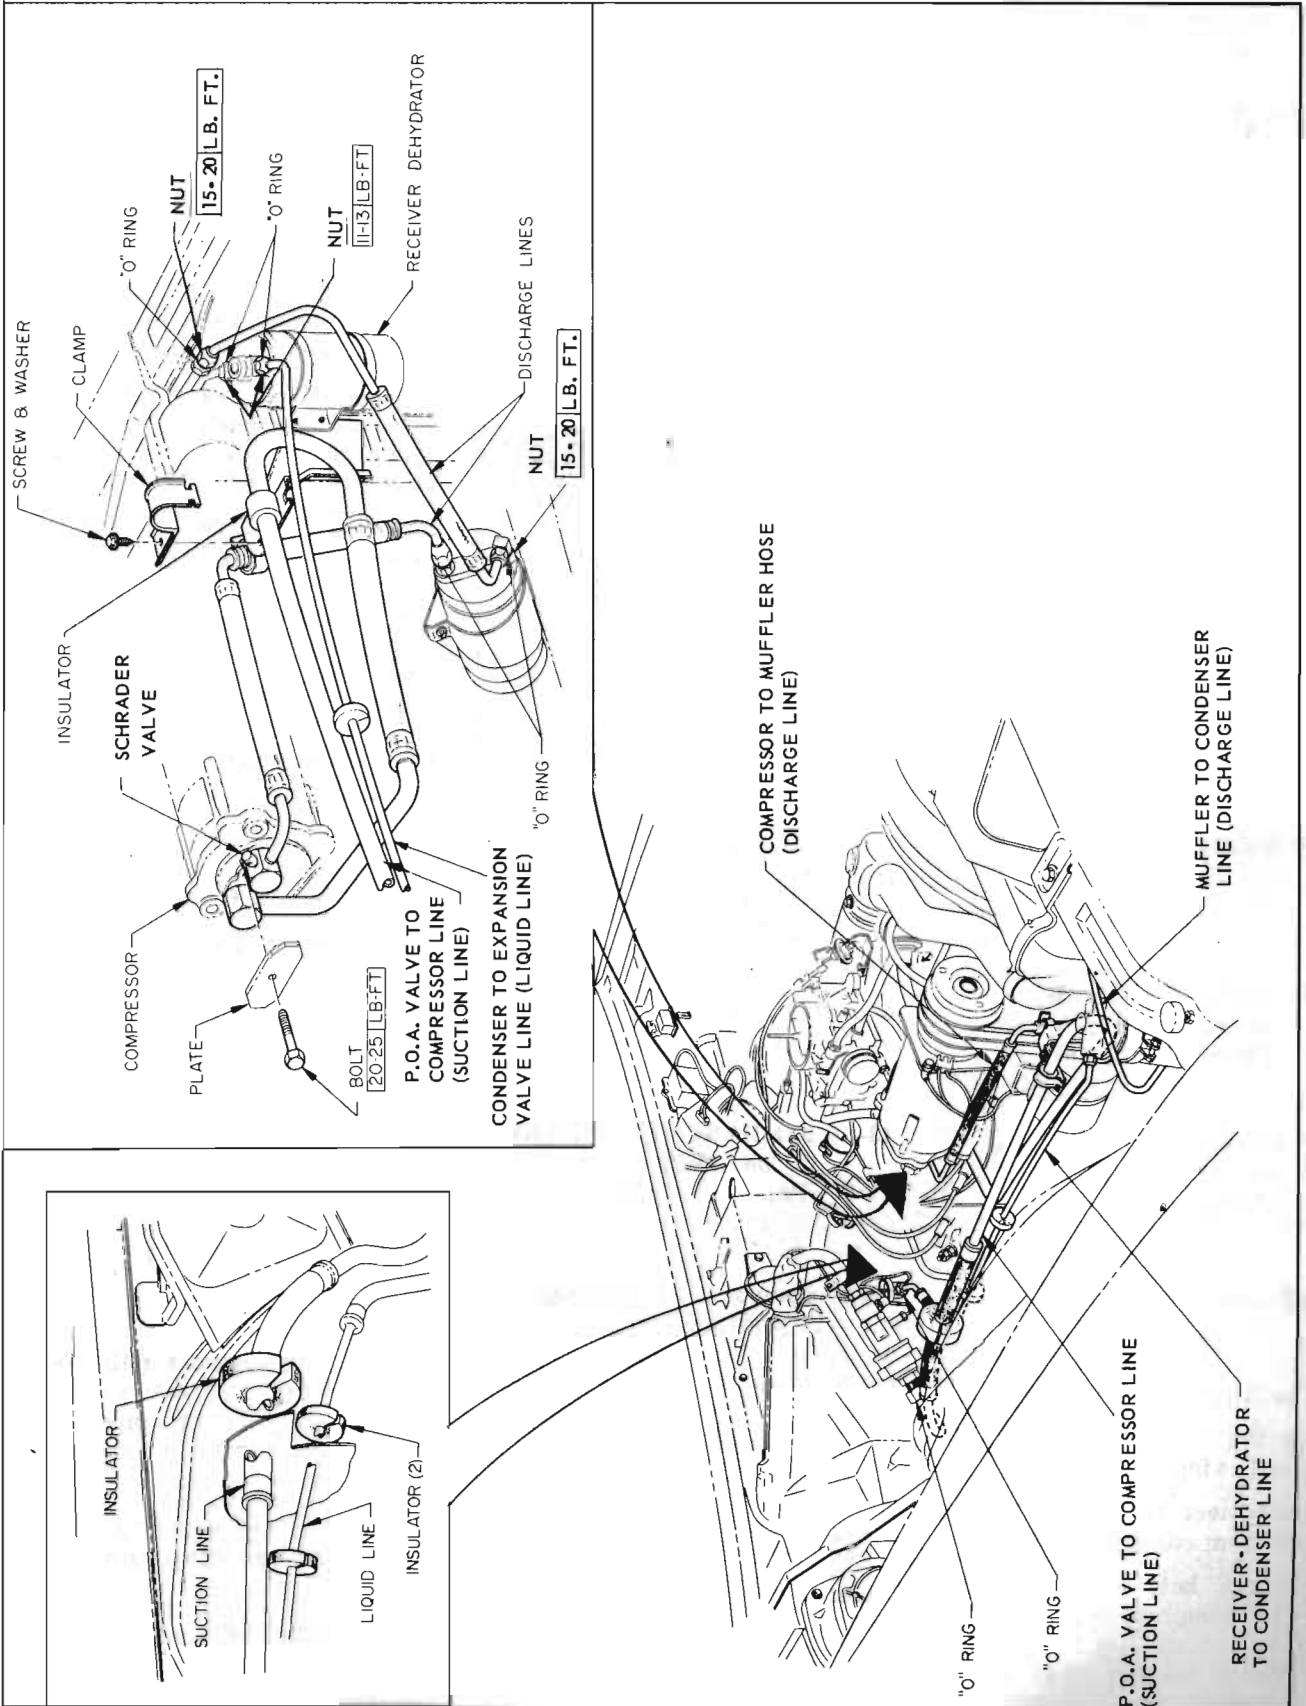

Figure 13-136—Engine Compartment Refrigerant Line Layout
For compressor mounting bracket bolts see Figure 13-136
3. Disconnect two (2) wire connector from compressor.
4. Remove bolt and plate from rear of compressor and disconnect suction and discharge lines. See Figure 13-136. Tape refrigerant lines closed.
2. Disconnect discharge lines from muffler and tape openings closed. See Figure 13-136.
3. Remove two (2) bolts securing muffler bracket to support and remove. Remove muffler from underside of car.
2. Disconnect condenser and liquid line from receiver-dehydrator and tape openings closed. See Figure 13-136.